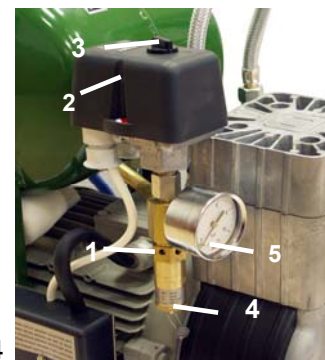
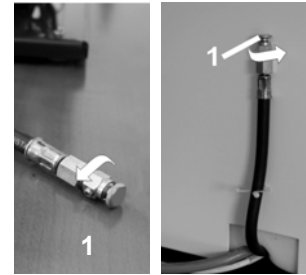

Fig.4
Fig.5
(Fig.4)
#### Compressors (Fig.5)
If the compressor will not be used for a prolonged time period, drain any condensate from the air tank. Then turn on the compressor for 10 minutes, keeping the drain valve open (1) (Fig.5). Switch off the compressor by switch (3) at pressure switch (2) (Fig.4), close the drain valve and disconnect the appliance from the mains.
- Release air pressure in the pressure tank by opening the drain valve (1) (Fig.5).